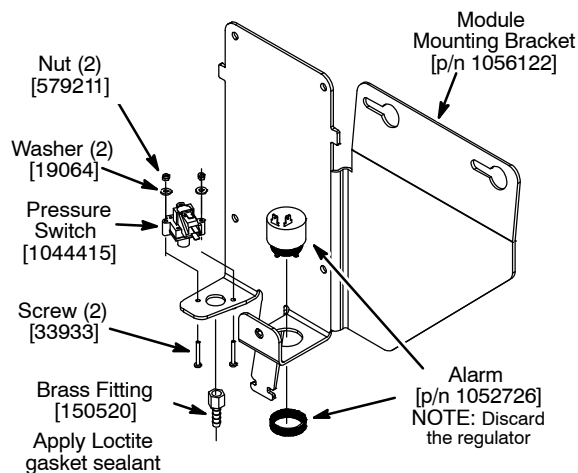

Fig. 29
2. Mount the pressure switch [p/n 1044415] and alarm [p/n 1052726] to the *ec-H2O* module mounting bracket [p/n 1056122] as shown (Figure 29).